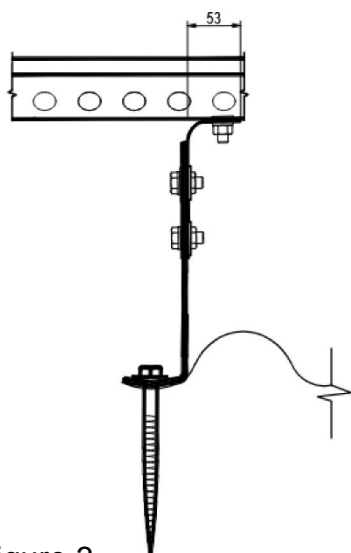

Figure 3.
- Install the PR-bracket plate by inserting it into the roof recess such that the PR-bracket plate is in a vertical position (Figure 3).
- Make sure that the RP-bracket plate parts are in the position shown in the figure (Figures 3 and 4).
- Screw the PR-bracket plate to the roof using 2 M8x60 mm screws (Figures 3 and 4).